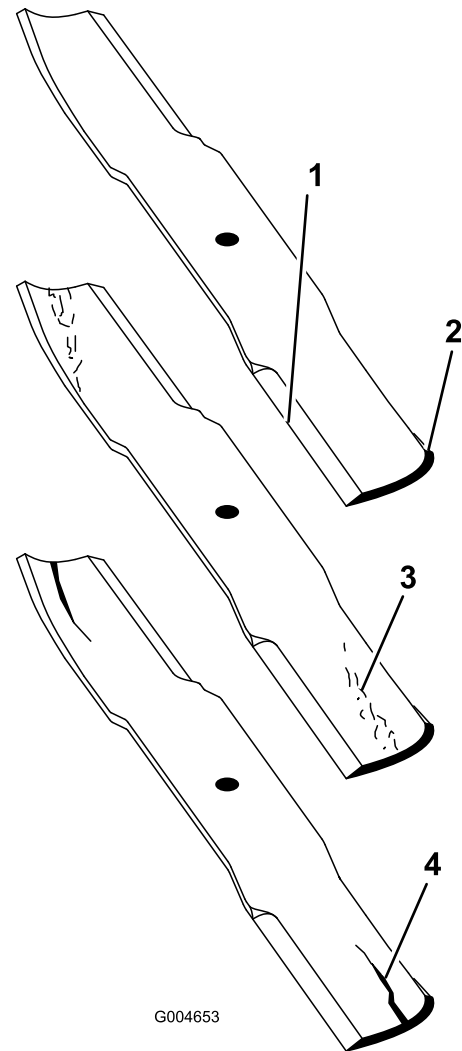

Figure 88
2. Examine the cutting ends of the blade carefully, especially where the flat and curved parts of the blade meet (Figure 88).
Note: Because sand and abrasive material can wear away the metal that connects the flat and curved parts of the blade, check the blade before using the mower. If the blade is worn (Figure 88), replace it.